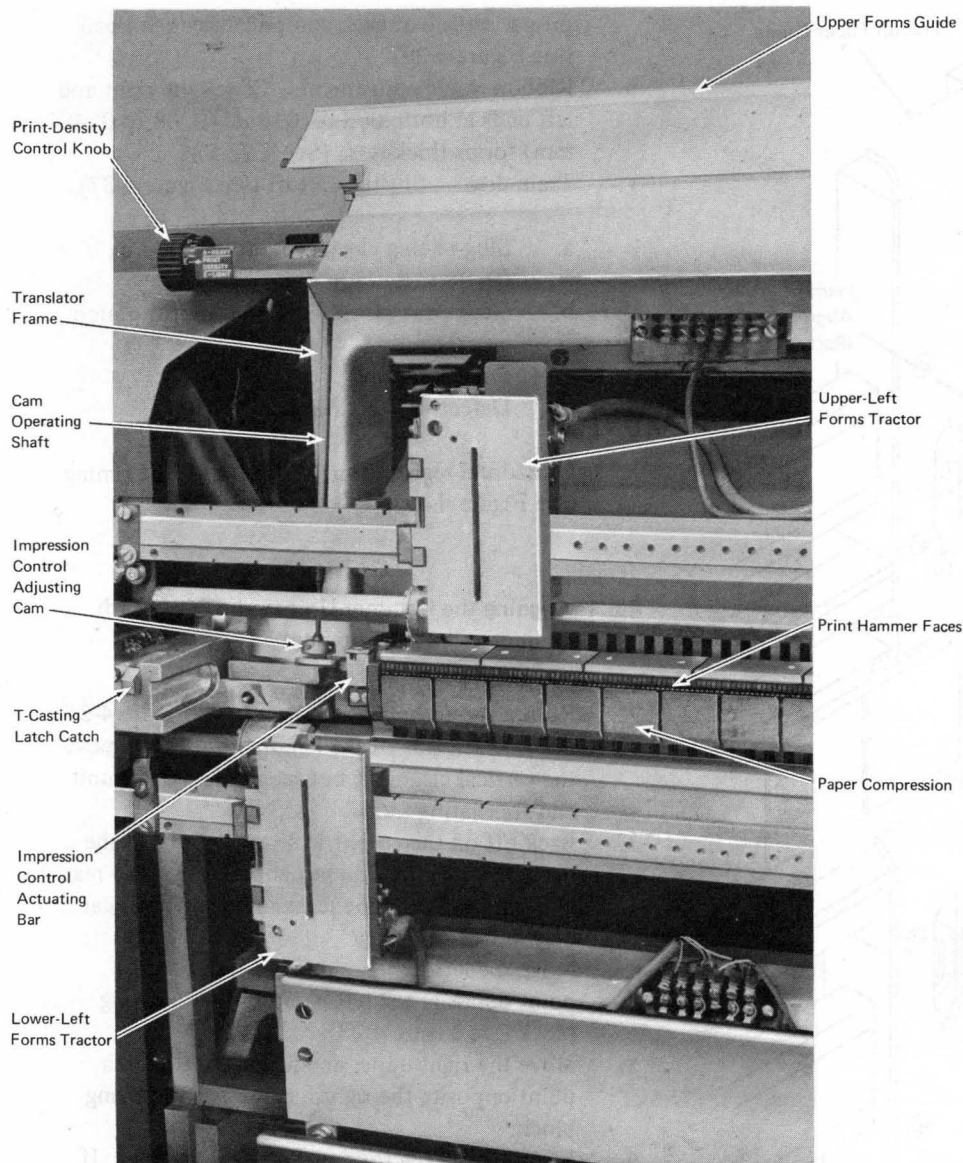

Figure 4-22. Print Density Control Mechanism
3. Position the impression control adjusting cam so that it just makes contact with the impression control actuating bar (Figure 4-22) when the bar is against its stop (actuating bar all the way to the left).